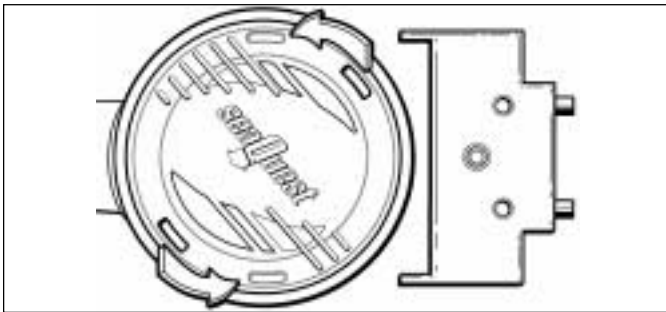

Figure 1
1.1.4 Rotate the purge button(48) as needed to align the two opposing slots with the slots in the diaphragm retainer(47) beneath it. Mate the flat tabs of the Air Source Multi-Tool (P/N 42315) through the slots of the purge button and into the diaphragm retainer (see Fig. 1). While holding the tool securely engaged, turn the purge button and retainer counter-clockwise to loosen and remove both parts as one assembly.